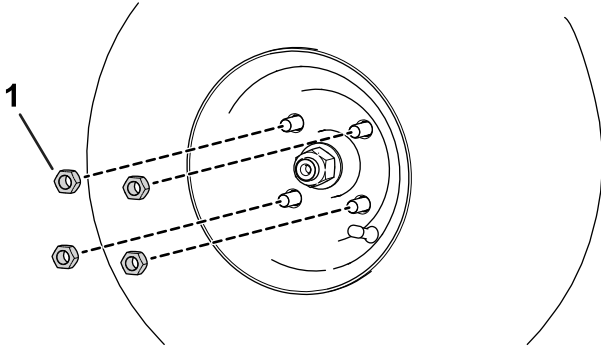

Figure 10
2. Install the wheel lug nuts (Figure 10).